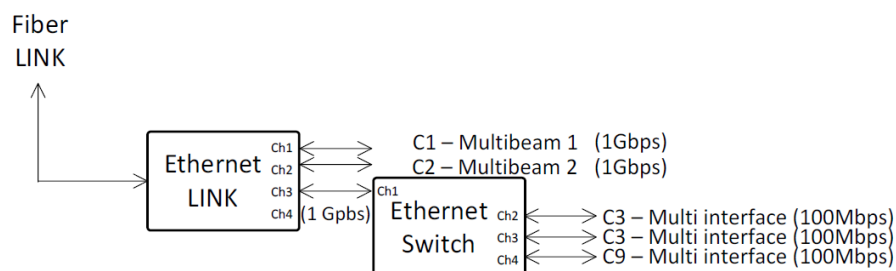

Figure 37. C3 Network Configuration at the wet-end
- Dual 100Mbit ethernet communications connected to a gigabit switch and output from a single gigabit connection topside. See Figure 37 below.